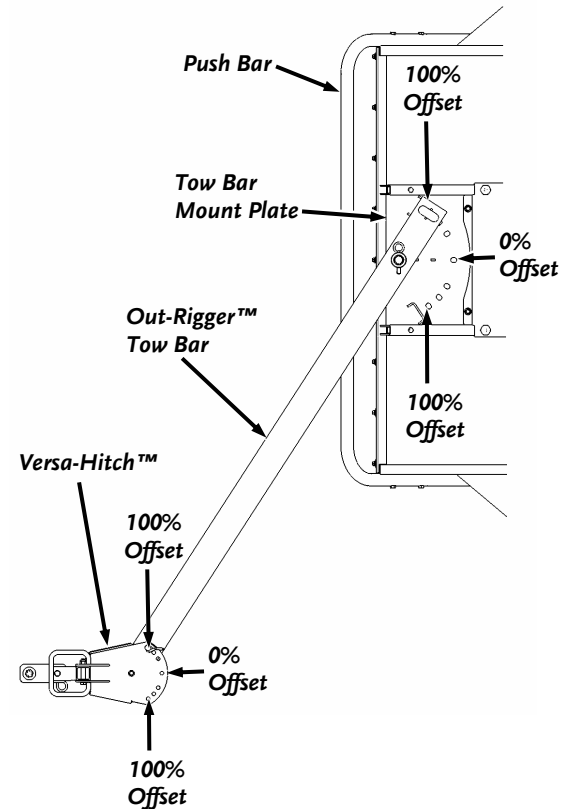

Figure 15
When performing offset mowing, always be sure that the Out-Rigger™ Tow Bar angle setting (**Figure 15**) and the Versa-Hitch™ angle setting match. This allows the tow-behind DR field and brush mower to track parallel to the tow vehicle.
3. Move the Mower, using the Push Bar, until you have approximately aligned the Tow Bar with the desired Offset angle (**Figure 15**).